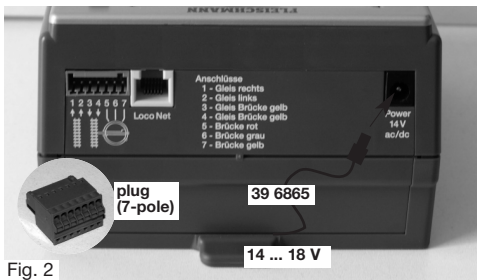

Fig. 2
All **connections** of the TURN-CONTROL will be found on the rear of the equipment (Fig. 2).
- ➔ The power feed can be connected up to any of the FLEISCHMANN transformers 6706, 6735, 6755 or 6811 by using the connecting cable 39 6865 as supplied, or to any transformer which incorporates a 14-16.5 V continuous voltage output (DC or AC), see Fig. 2.
- ➔ Track connections and turntable connections are made via the 7-pole plug. The location of the wires can be seen above (Fig. 2) or shown on
First of all, insert the 7-pole plug into its locating socket on the *TURN-CONTROL*. Connect up the wires onto the 7-pole plug (see Fig. 2).
6735. The small round plug on the other ends of the wires is then inserted into the socket on the *TURN-CONTROL* marked "Power 14 V ac/dc" (Fig. 2).